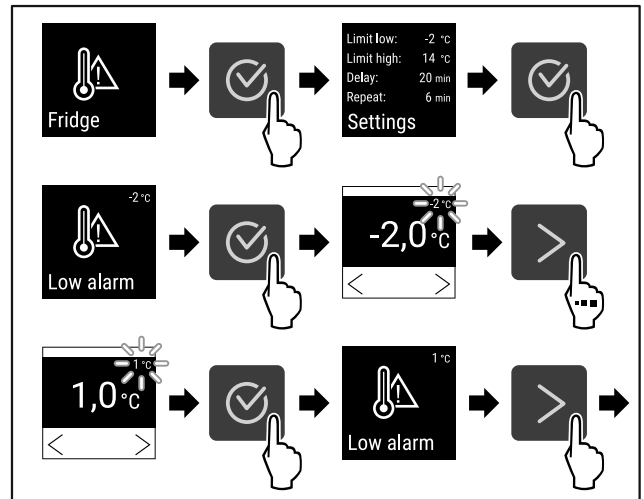

Fig. 113
- ▶ Complete steps (see Fig. 113).